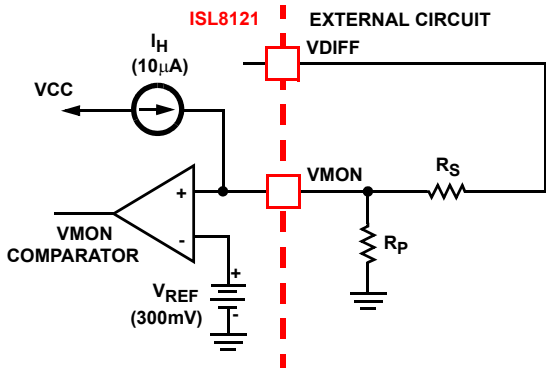

FIGURE 11. SETTING THE MONITORING THRESHOLD AND HYSTERESIS
While in external reference (ER) mode, the threshold sensitive VMON pin can be used to control when the ISL8121 starts to monitor the output for PGD and OVP protection purposes. As shown in Figure 11, connect the VMON pin to the voltage to be monitored via a resistor divider. An internal current source helps set a user-adjustable monitor threshold hysteresis. Choose resistor values according to desired hysteresis voltage,  $V_H$ , and desired rising threshold,  $V_T$ .